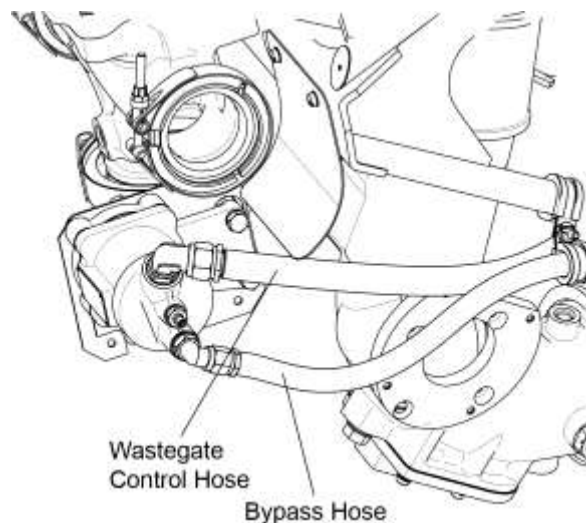

Figure 8
- (1) Disconnect the bypass hose from the exhaust bypass valve (Figure 8).
- (2) Disconnect the wastegate control hose from the exhaust bypass valve.
- (2) Torque the V-band coupling per the Standard Torque Tables in the latest revision of the *Service Table of Limits - SSP-1776*.
- (3) Connect the wastegate control hose (Figure 8) to the exhaust bypass valve. Torque the wastegate control hose fitting per the Standard Torque Tables in the latest revision of the *Service Table of Limits - SSP-1776*.
- (4) Connect the bypass hose (Figure 8) to the exhaust bypass valve. Torque the bypass hose fitting per the Standard Torque Tables in the latest revision of the *Service Table of Limits - SSP-1776*.